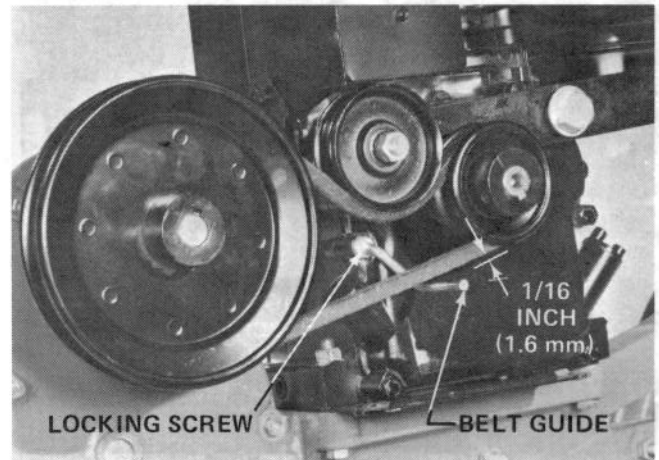

Figure 31
3. Loosen belt guide locking screw (Fig. 31).
4. Assemble new belt, and adjust the belt guide to allow 1/16 inch (1.6 mm) clearance between the bottom of the belt and the belt guide when clutch control is engaged (Fig. 31).